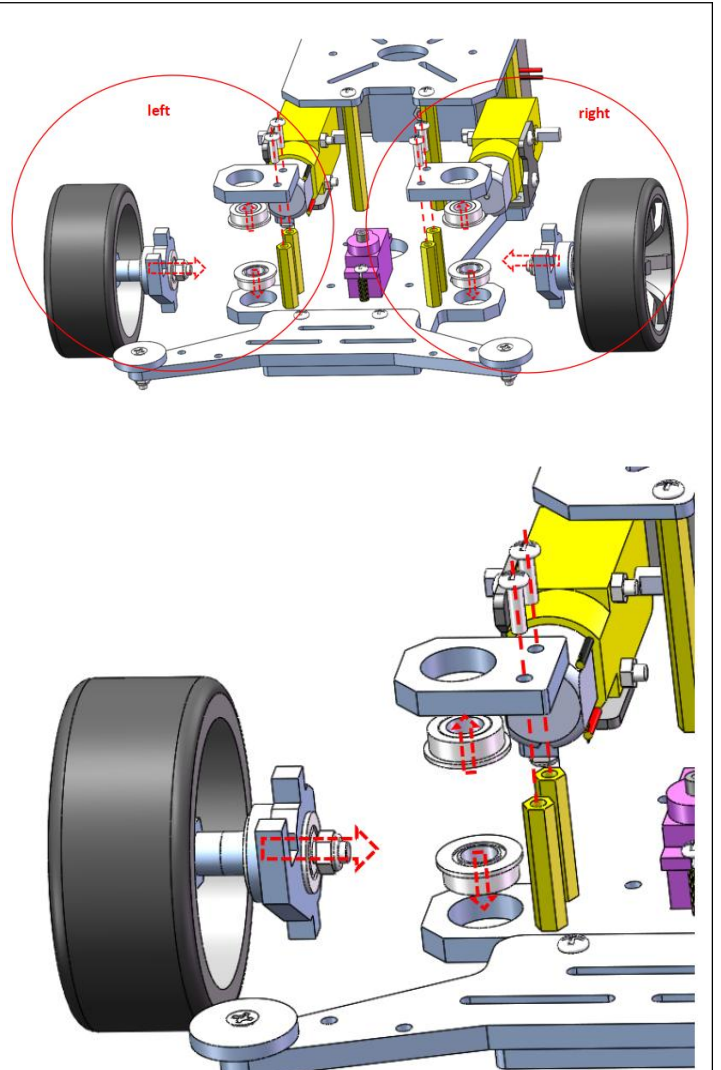

Figure 3
4. Installation of the left front wheel to the acrylic chassis frame (Figure 3):
2. Use 4 pcs M3*8mm round head screws to fix 4 pcs M3*20mm double through copper columns on the acrylic support plate (pay special attention to the installation direction of the double through copper columns on the acrylic support plate, refer to Figure 3 and Figure 4)	 Figur3